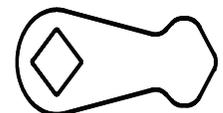

Figure 4
1. Remove retaining pad and spindle cam from assembly (Figure 4).
3. Slide spindle cam post into correct slot of display slide (Figure 4).